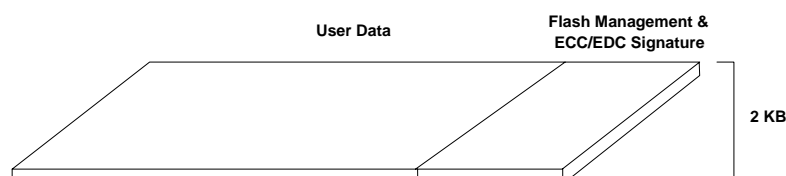

Figure 6: Page Structure
- **Page** – Each page contains 2048 bytes of user data and a 64-byte extra area that is used to store flash management and EDC/ECC signature data, as shown in Figure 6.